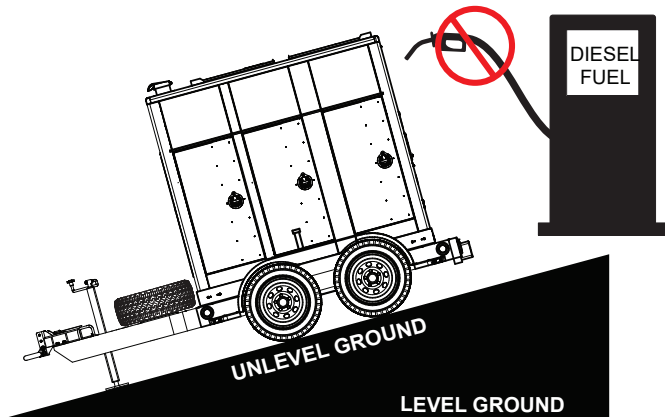

Figure 13. Only Fill on Level Ground
1. Place the generator level with the ground. Failure to do so will cause fuel to spill from the tank before reaching full capacity (Figure 13).